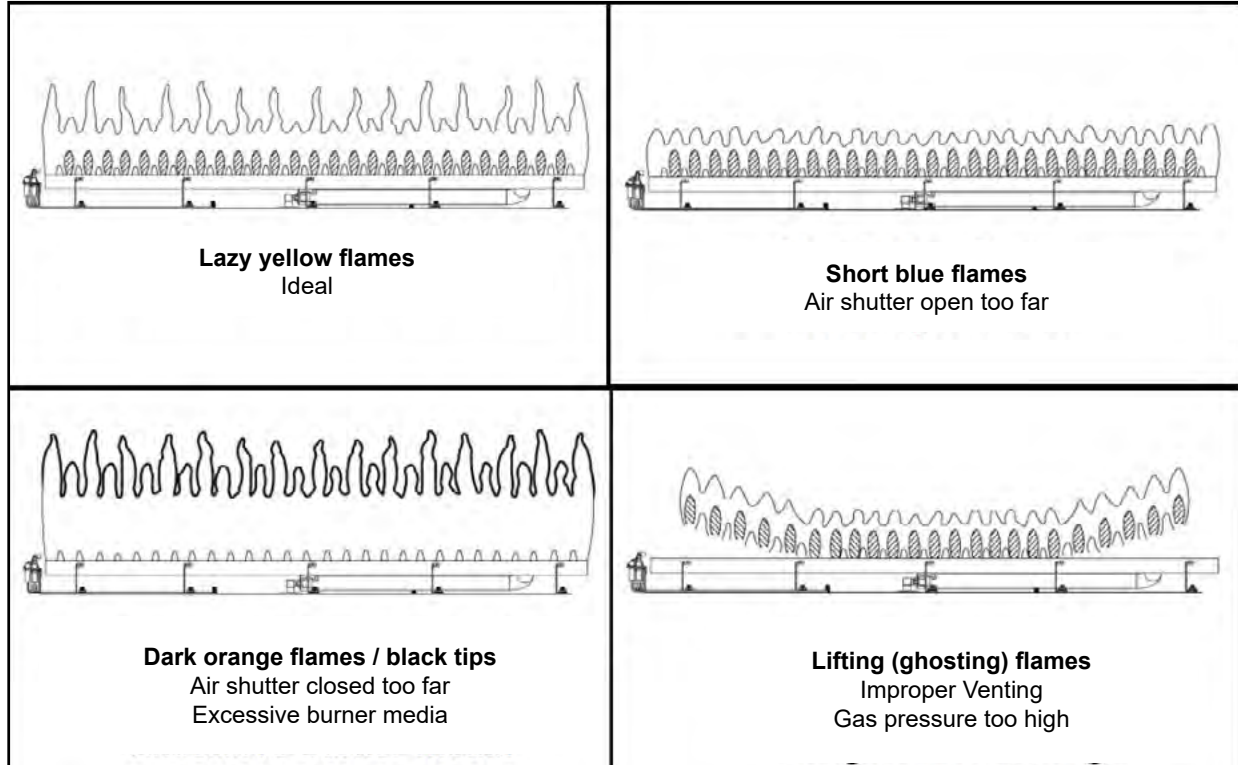
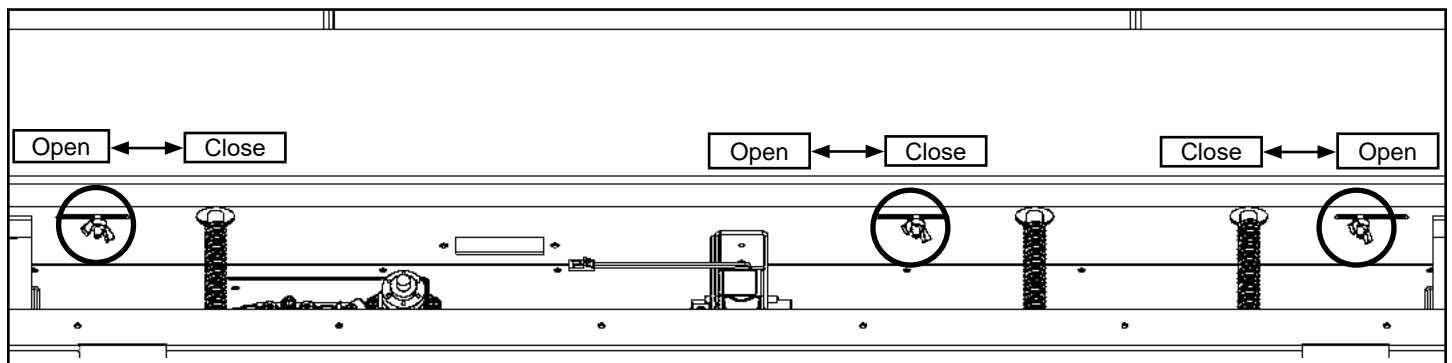

Figure 19.5.01:
Figure 19.5.02:
- Inspect and ensure the lighting of the main burner occurs within 4 seconds of the main gas valve opening. Flames should match those shown in **Figure 19.5.01**
The Excellence includes three air shutters located under the door of the fireplace which may be used to adjust the primary air to achieve the ideal flame as shown in **Figure 19.5.01**. To adjust, loosen the wing nut on the air shutter and adjust as shown in **Figure 19.5.02**. To open the air shutter and increase air flow to the burner, slide the air shutter to the left. To close the air shutter and decrease air flow to the burner, slide the air shutter to the right.